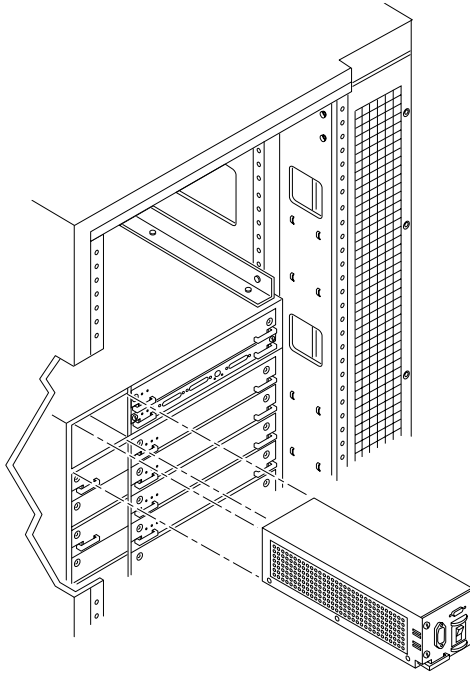

FIGURE 1-5 Fan Tray Assembly—System Rear
8. Remove the fan tray assembly from the rear of the system (FIGURE 1-5).
1. **Replace the fan tray assembly in the rear of the system (FIGURE 1-5).**